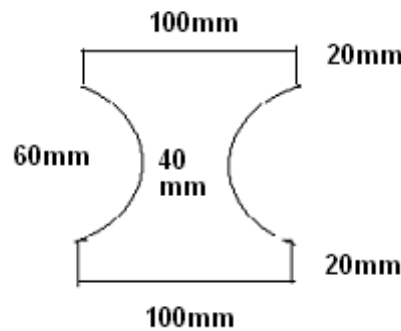

Figure 3:
5. A steel section shown in figure3 is subjected to a shear force of 80kN. Determine shear stress at the important points and sketch the shear distribution across the section. [16]